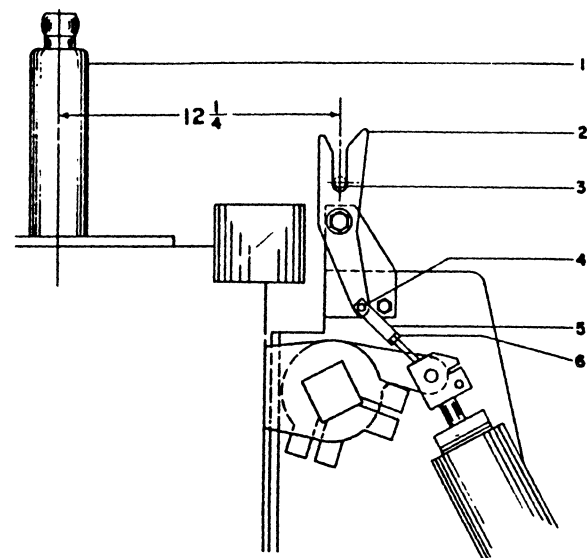

Figure 12. (0264B0153) Auxiliary Switch Linkage
Refer to Figure 12. With the breaker in the open position, the distance from the center line of the front bushings (1) to the center of the switch operating pin (3) should be 12-1/4" as shown. To change this setting, loosen the locking nut (6), remove the pin (4), and turn the clevis (5). Reassemble and check adjustment.